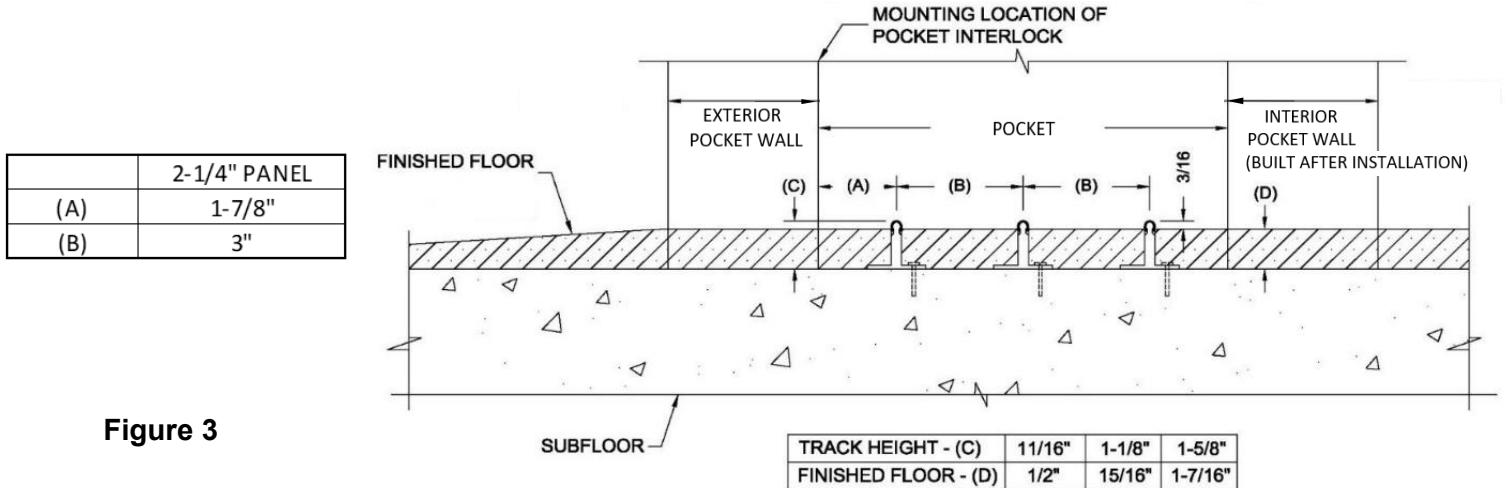
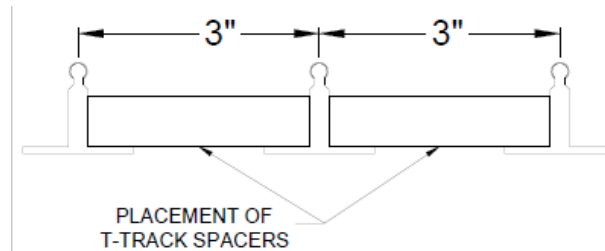

Figure 3
Figure 4
**NOTE:** It is important to reference and understand Figure 3 below, for required dimensions and placement of the T-tracks to the pocket opening before proceeding with the installation of the t-tracks.
- 2.4 Install T-tracks starting from the exterior. Determine the placement of bottom of the T-tracks based on diagram in Figure 3. Measurement between centerline to centerline (label B) of each T-track is 3". T-tracks must be secured to subfloor using appropriate screws (not included) based on the material of subfloor in place.
- 2.5 Sill tracks must be level and square to the opening. Align and shim as needed. Continue installing sill tracks to the interior based on dimensions provided in Figure 3. Use the plastic sill track spacer template (supplied by SPW) to ensure proper spacing of tracks (see Figure 4).